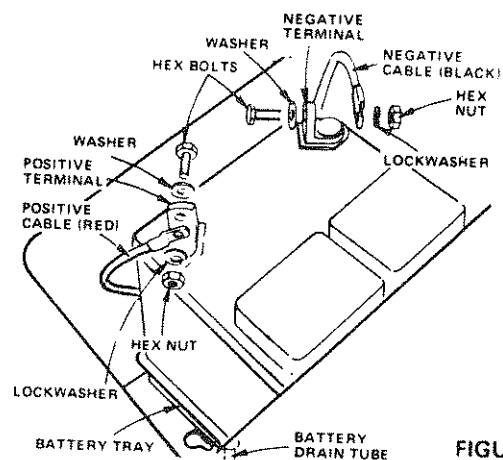

FIGURE 4
- b. Lower battery into fender well with battery terminals toward front of tractor (Fig. 4). Make sure battery rests in battery tray (Fig. 4).
- c. Connect **RED** battery cable to positive (+) battery terminal with hex bolt, flat washer, lockwasher and hex nut (shown full size on pg. 6) found in bag of parts. Tighten securely with two 7/16" wrenches. (Fig. 4)
- d. Connect **BLACK** ground cable to negative (-) battery terminal with remaining hex bolt, flat washer, lockwasher and hex nut (shown full size on pg. 6) found in bag of parts. Tighten securely. (Fig. 4)